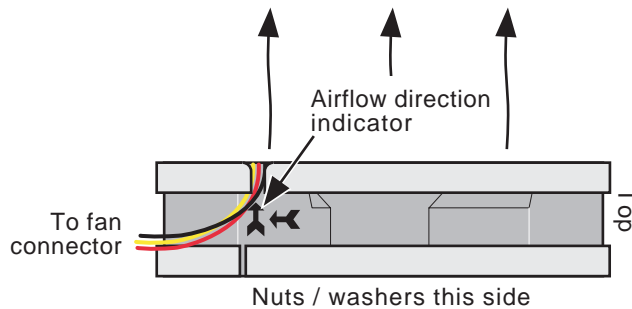

Figure 11.1.1 Airflow direction indicator
6. Take the new fan, and orient it such that the airflow is into the instrument, and the wires emerge from the left hand edge of the fan (that is, the edge nearest the display screen). Figure 11.1.1 shows the airflow and vane direction indicators moulded into the edge of the fan, near the wire aperture.